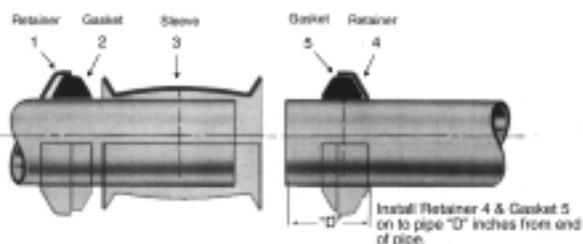

Figure 1
- a) Install retainer (1), gasket* (2) and sleeve (3) on one side of pipe in sequence shown in Figure 1.
- b) Install remaining retainer (4) and gasket (5) on other pipe end.
- c) Position retainer (4) and gasket (5) to proper pipe insertion depth ("D") as shown in Table 1.